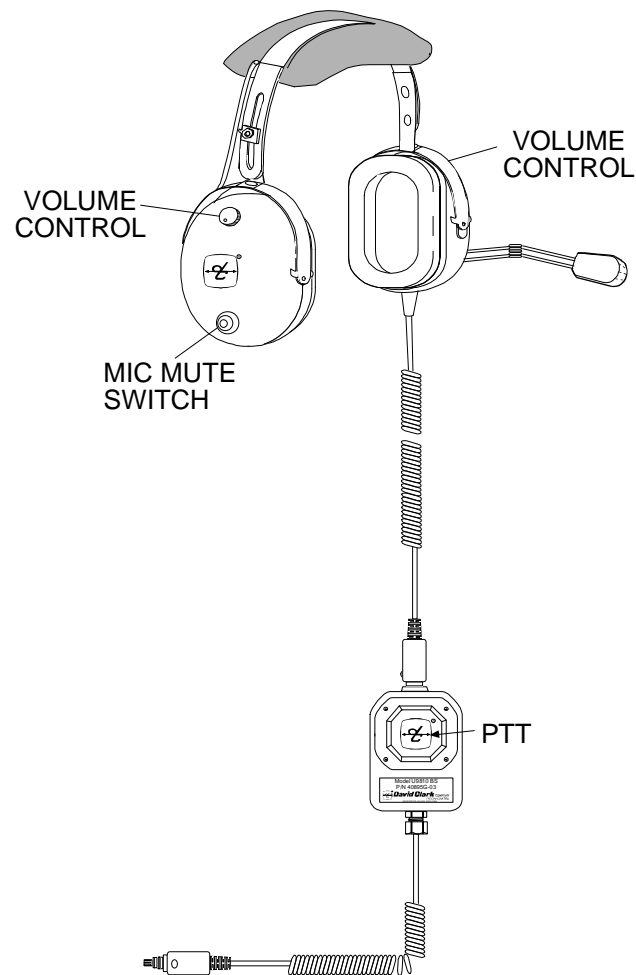

Figure 10: Headset with Body PTT Switch
- q To connect the Headset to the Body PTT Switch, align the keyways on each connector and push together. To remove, just pull apart. See **Figure 10**.